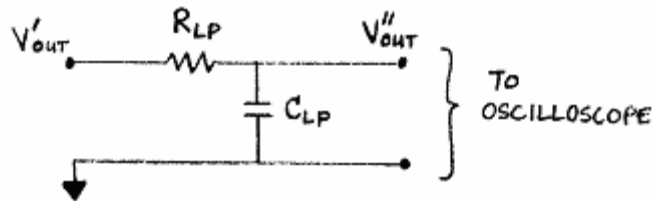

Figure 11. RC Low-pass filter
1. Add the RC low-pass filter shown in Figure 11 to the circuit you built in Experiment #2. Choose the resistor  $R_{LP}$  and the capacitor  $C_{LP}$  such that  $R_{LP} = 100 \text{ k}\Omega$  and  $C_{LP} = 0.1 \text{ }\mu\text{F}$ . Then, the cutoff frequency  $\omega_0$  of the filter is given by